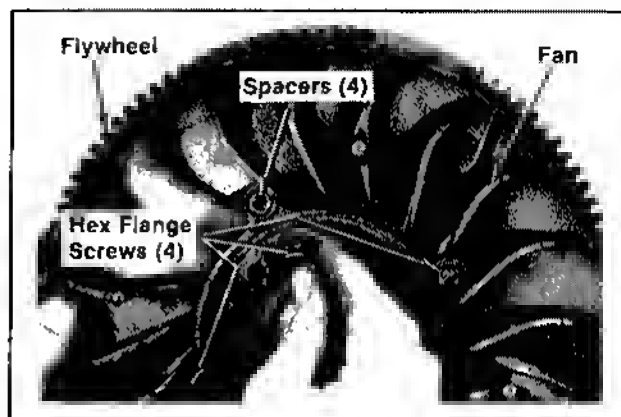

Figure 11-36. Installing Fan To Flywheel.
1. Install the spacers, fan, and hex. flange screws. Refer to Figure 11-36.